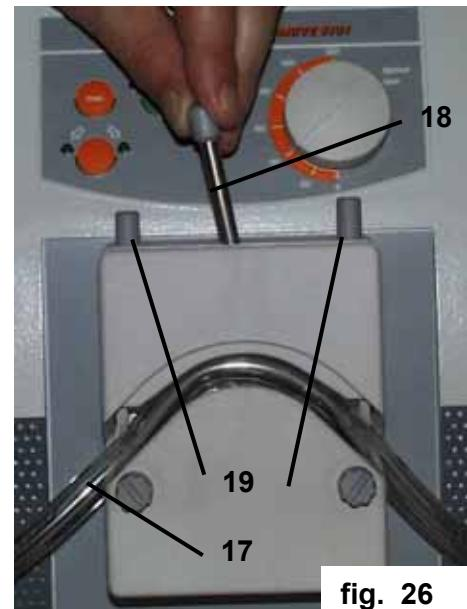

fig. 26
3.3. SP quick (fig. 26)
- Fold lever (18) to the left to open hose bed.
- Rotate two clampscrews (19) CCW till stop.
- Seat hose (17) in sickle-shaped cut-out in pump head.
- Fold lever (18) to the right to close hose bed.
- If necessary clamping can be increased by turning clampscrews (19) clockwise when hose bed is open. Close hose bed and check adjustment with trial run.